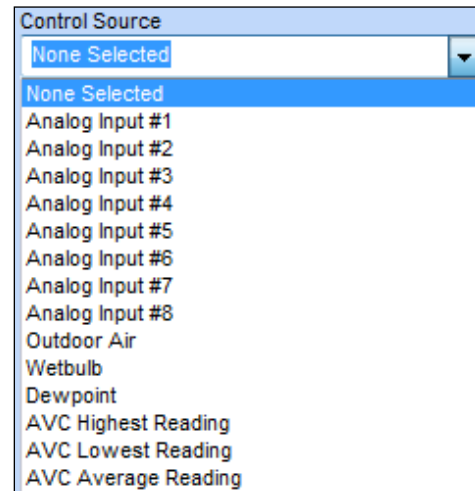
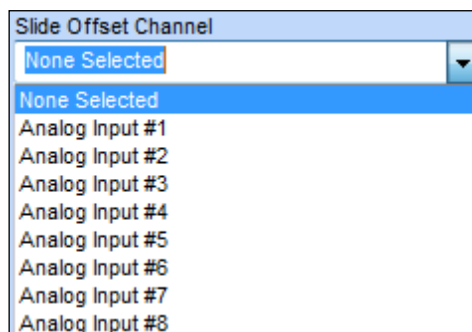

Figure 37: Control Source Field
Figure 40: Slide Offset Channel
- **Binary Inputs #1- 8 (Not shown in Figure 37)**
- **Analog Outputs #1- 4 (Not shown in Figure 37)**
If you are using an AAON Standard Flush Mount Wall Sensor which has the optional slide offset switch, and you want that slide switch to adjust the Control Source Setpoints up or down, be sure to select the analog input the slide offset was connected to (Control Source field, Figure 37, page 23). See Figure 40 below.